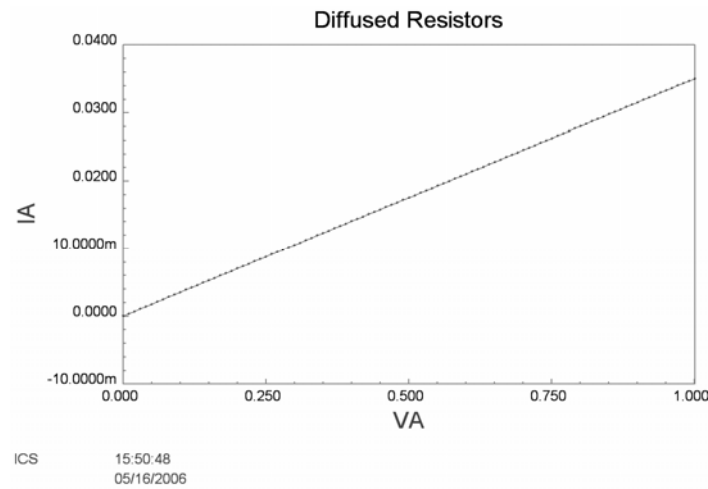

Figure 57: Sheet resistance IV curve
- 8 Figure 57 is showing the ultimate graph of the ID vs. VD